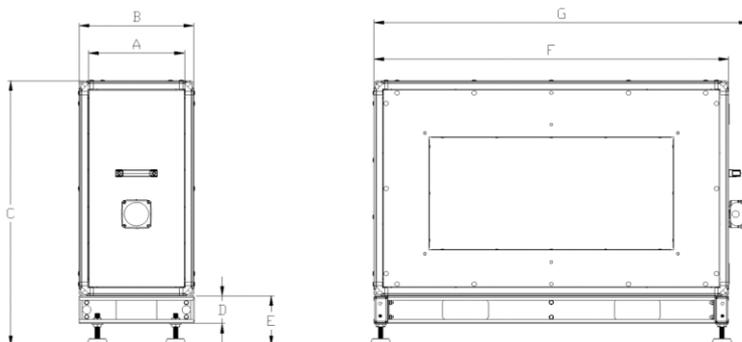

Fig. 52
- EVO-50R/ 60R/ 80R/ 95R/ 120R/ 150R electrical after heater capacities, weights and dimensions can be seen below. (Fig. 52)